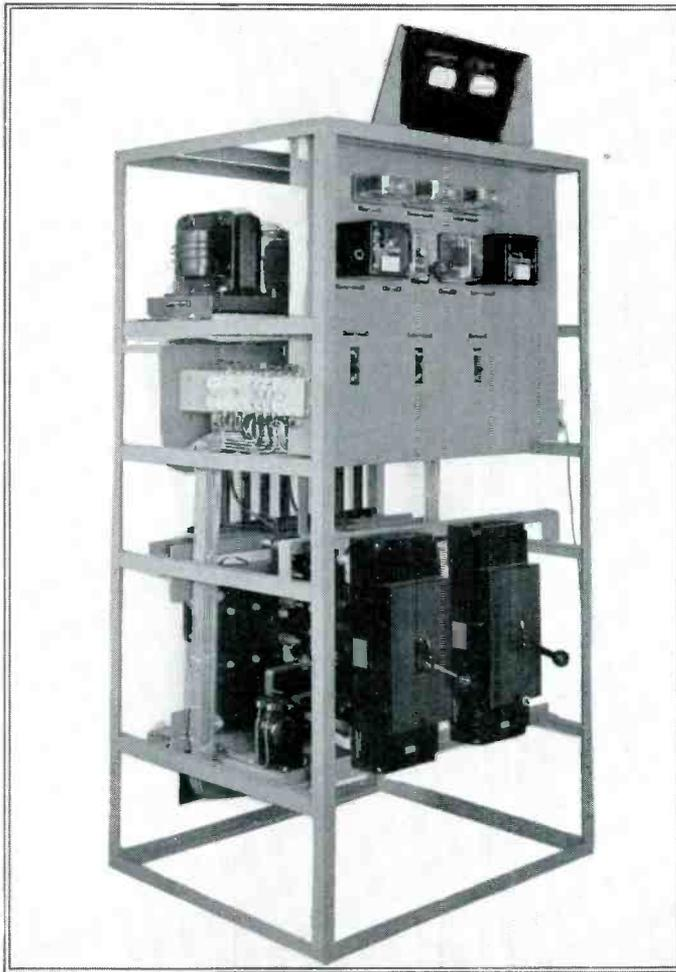

FIG. 11. POWER CONTROL AND RELAY RACK FOR THE 50-KW. FM TRANSMITTER. THIS UNIT IS MARKED D IN THE FLOOR PLAN, FIG. 8
- D—Power control rack, containing circuit-breakers, relays, and overload protective devices, Fig. 11.